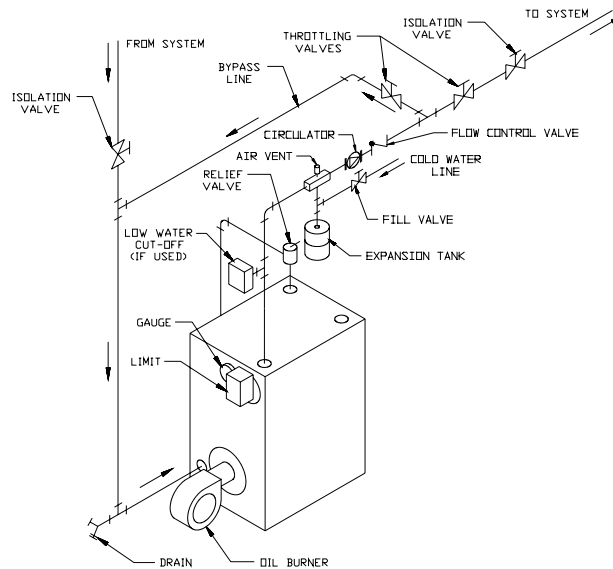

FIGURE 7.3: BOILER BYPASS PIPING
- 2) Large Water Volume Systems - The piping shown in Figure 7.3 will minimize the amount of time that the boiler operates with return temperatures below 120°F on these systems. A bypass is installed as shown to divert some supply water directly into the return water. The bypass pipe should be the same size as the supply. The two throttling valves shown are adjusted so that the return temperature rises above 120°F during the first few minutes of operation. A three-way valve can be substituted for the two throttling valves shown.